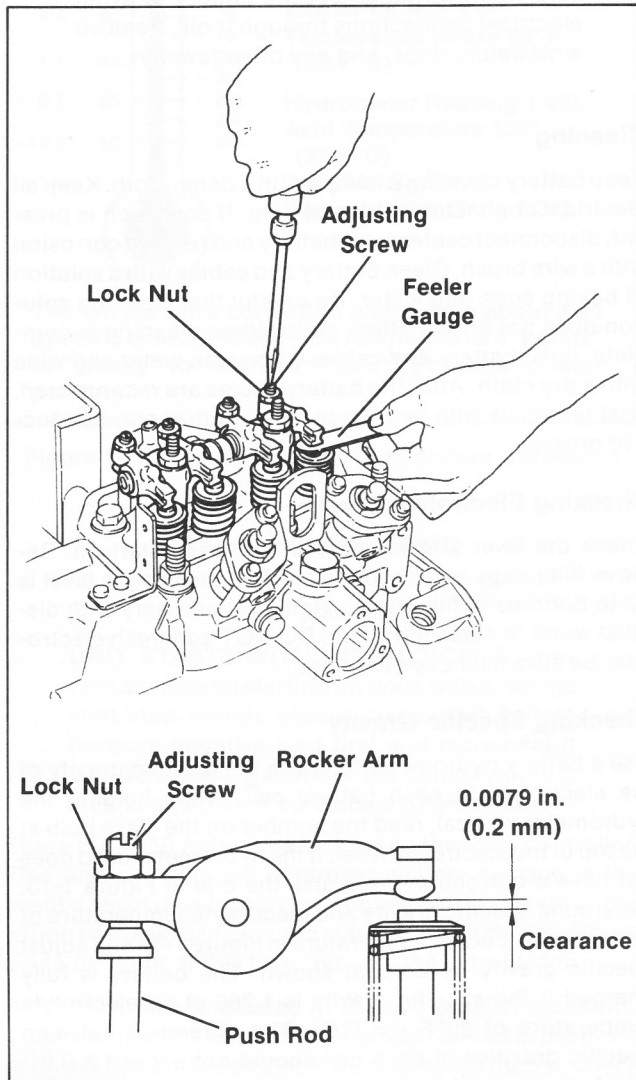

Figure 1-11. Valve Adjustment
3. Insert feeler gauge between rocker arm and exhaust valve. If necessary, loosen lock nut and move adjusting screw so that very slight drag is felt on the feeler gauge as it is withdrawn. Tighten lock nut on adjusting screw. See Figure 1-11. Repeat step for intake valve.